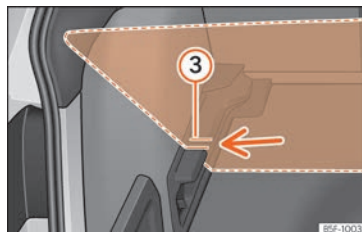

Fig. 194 Variable boot floor: tilted grooves.
»» Fig. 194 ③.
- Run the floor through these grooves with the help of handle ① as the rear seat backrest and until the floor is resting in the grooves.